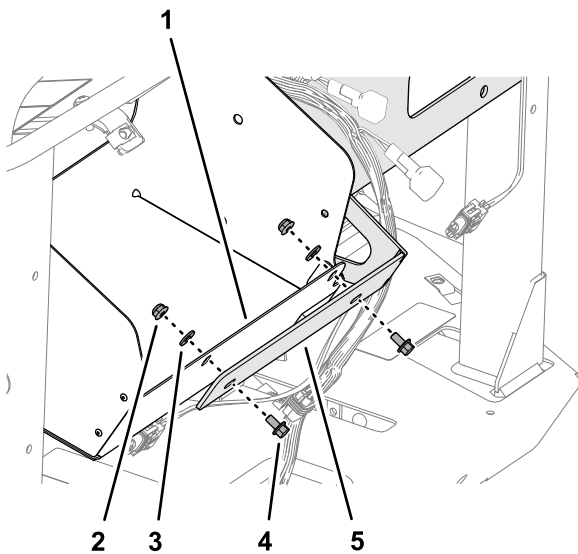

Figure 29
- 2. Align the holes in the manifold mount with the slots in the flange of the storage compartment (Figure 29).
3. Loosely assemble the manifold mount to the flange (Figure 29) with 2 flange-head capscrews (1/4 x 1/2 inch), 2 washers (1/4 inch), and 2 flange locknuts (1/4 inch).